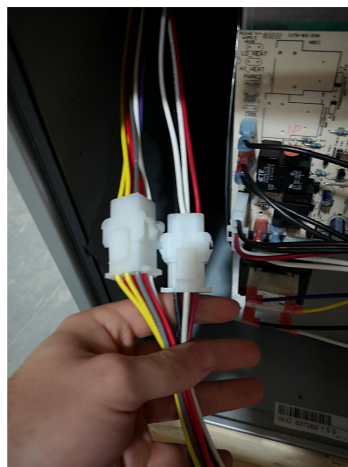

Figure 37
6. Unplug wire harness connectors and remove the upper harness from the division panel by rotating the twist-lock grommet counter-clockwise and pulling the connector through the clearance hole (Figure 37 & 38).